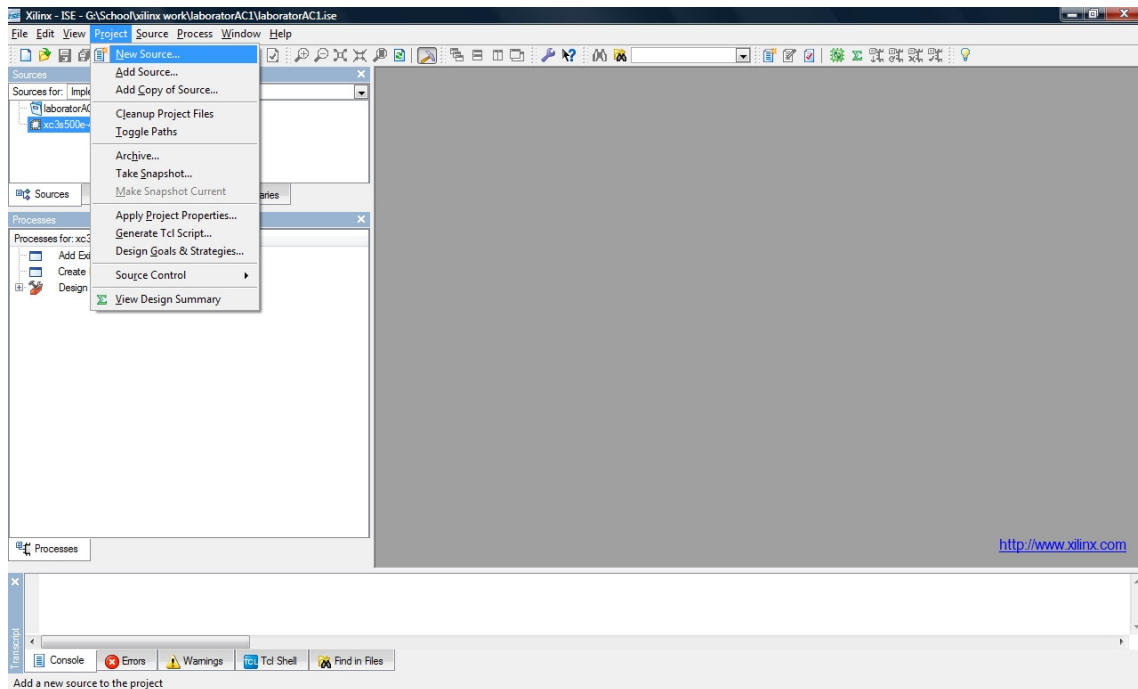

Figura 3.1
- Project-> New Source (Figura 3.1)